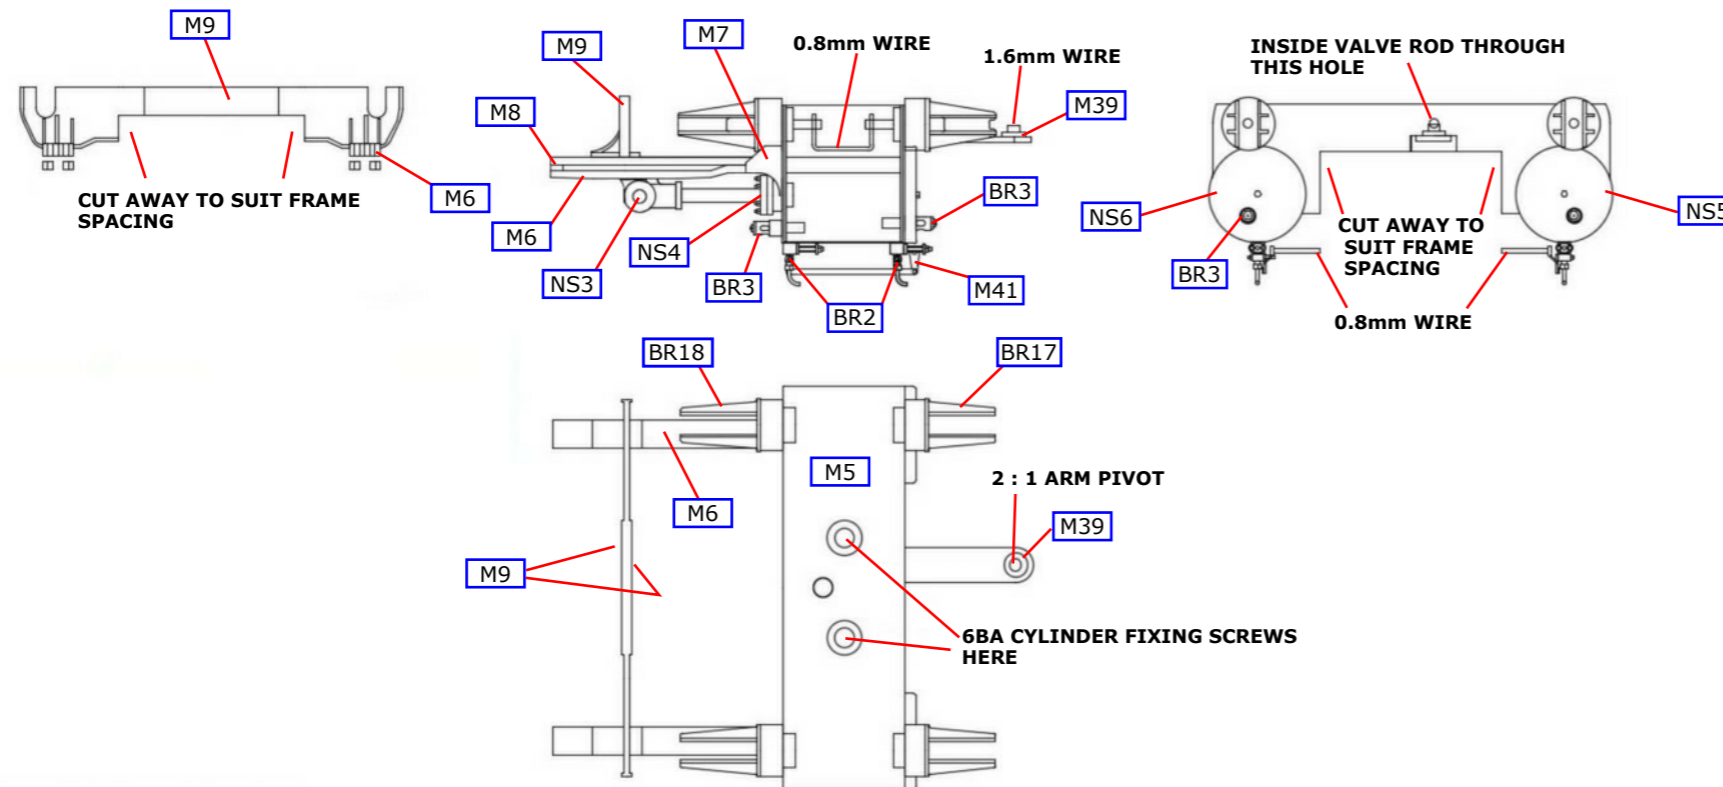

Fig 12. Cylinders
Add slide bar front flanges (M7) as shown in Fig.12 inside and outside of the slidebars. Solder the slide bar bracket laminations (M9) together back to back. Attach the cylinders to the chassis with two 6 BA bolts. Fit the slide bar bracket through the frame slots and solder to the
Solder a 1.6 mm wire pin in place in the bracket attached to the cylinders, make the pin just long enough so that the 2:1 arm can be sprung in place over the washer (M39) and pin, see Fig.12.
Adjust the valve rods to length so that they do not interfere with the rear valve rods and check for free movement. Now link the valve rods together with hoops of 0.8 mm wire (see Fig.12) checking that you have equal backward and forward movement on the conjugated valve gear arms. This now means that the valve gear is permanently fixed to the cylinders but the complete unit can be removed by unscrewing the eccentric arms and cylinder bolts.
**Finishing.** Form the cylinder wrappers (M40) to shape and solder in place making sure the drain cock holes are on the bottom centre line. Attach the drain cock castings (BR2). Emboss the rivets on the drain cock linkage (M41) and joggle the front lever, as shown in Fig.12, before soldering in place together with lengths of 0.8 mm wire to represent the operating rods.